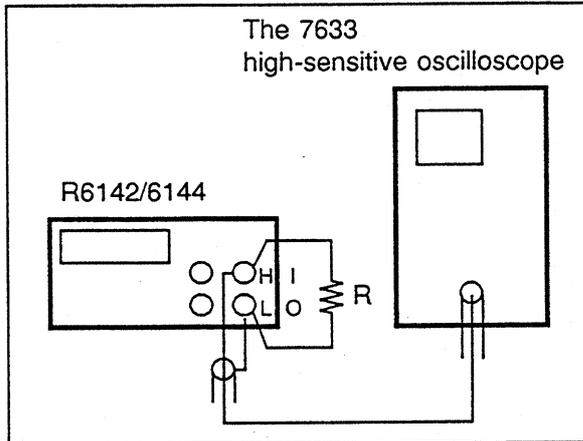

Figure 4-3 Cable Connection for Low-frequency Noise Voltage Measurement
- 1 Connect an oscilloscope to the R6142/6144 as shown in Figures 4-3 to 4-6.